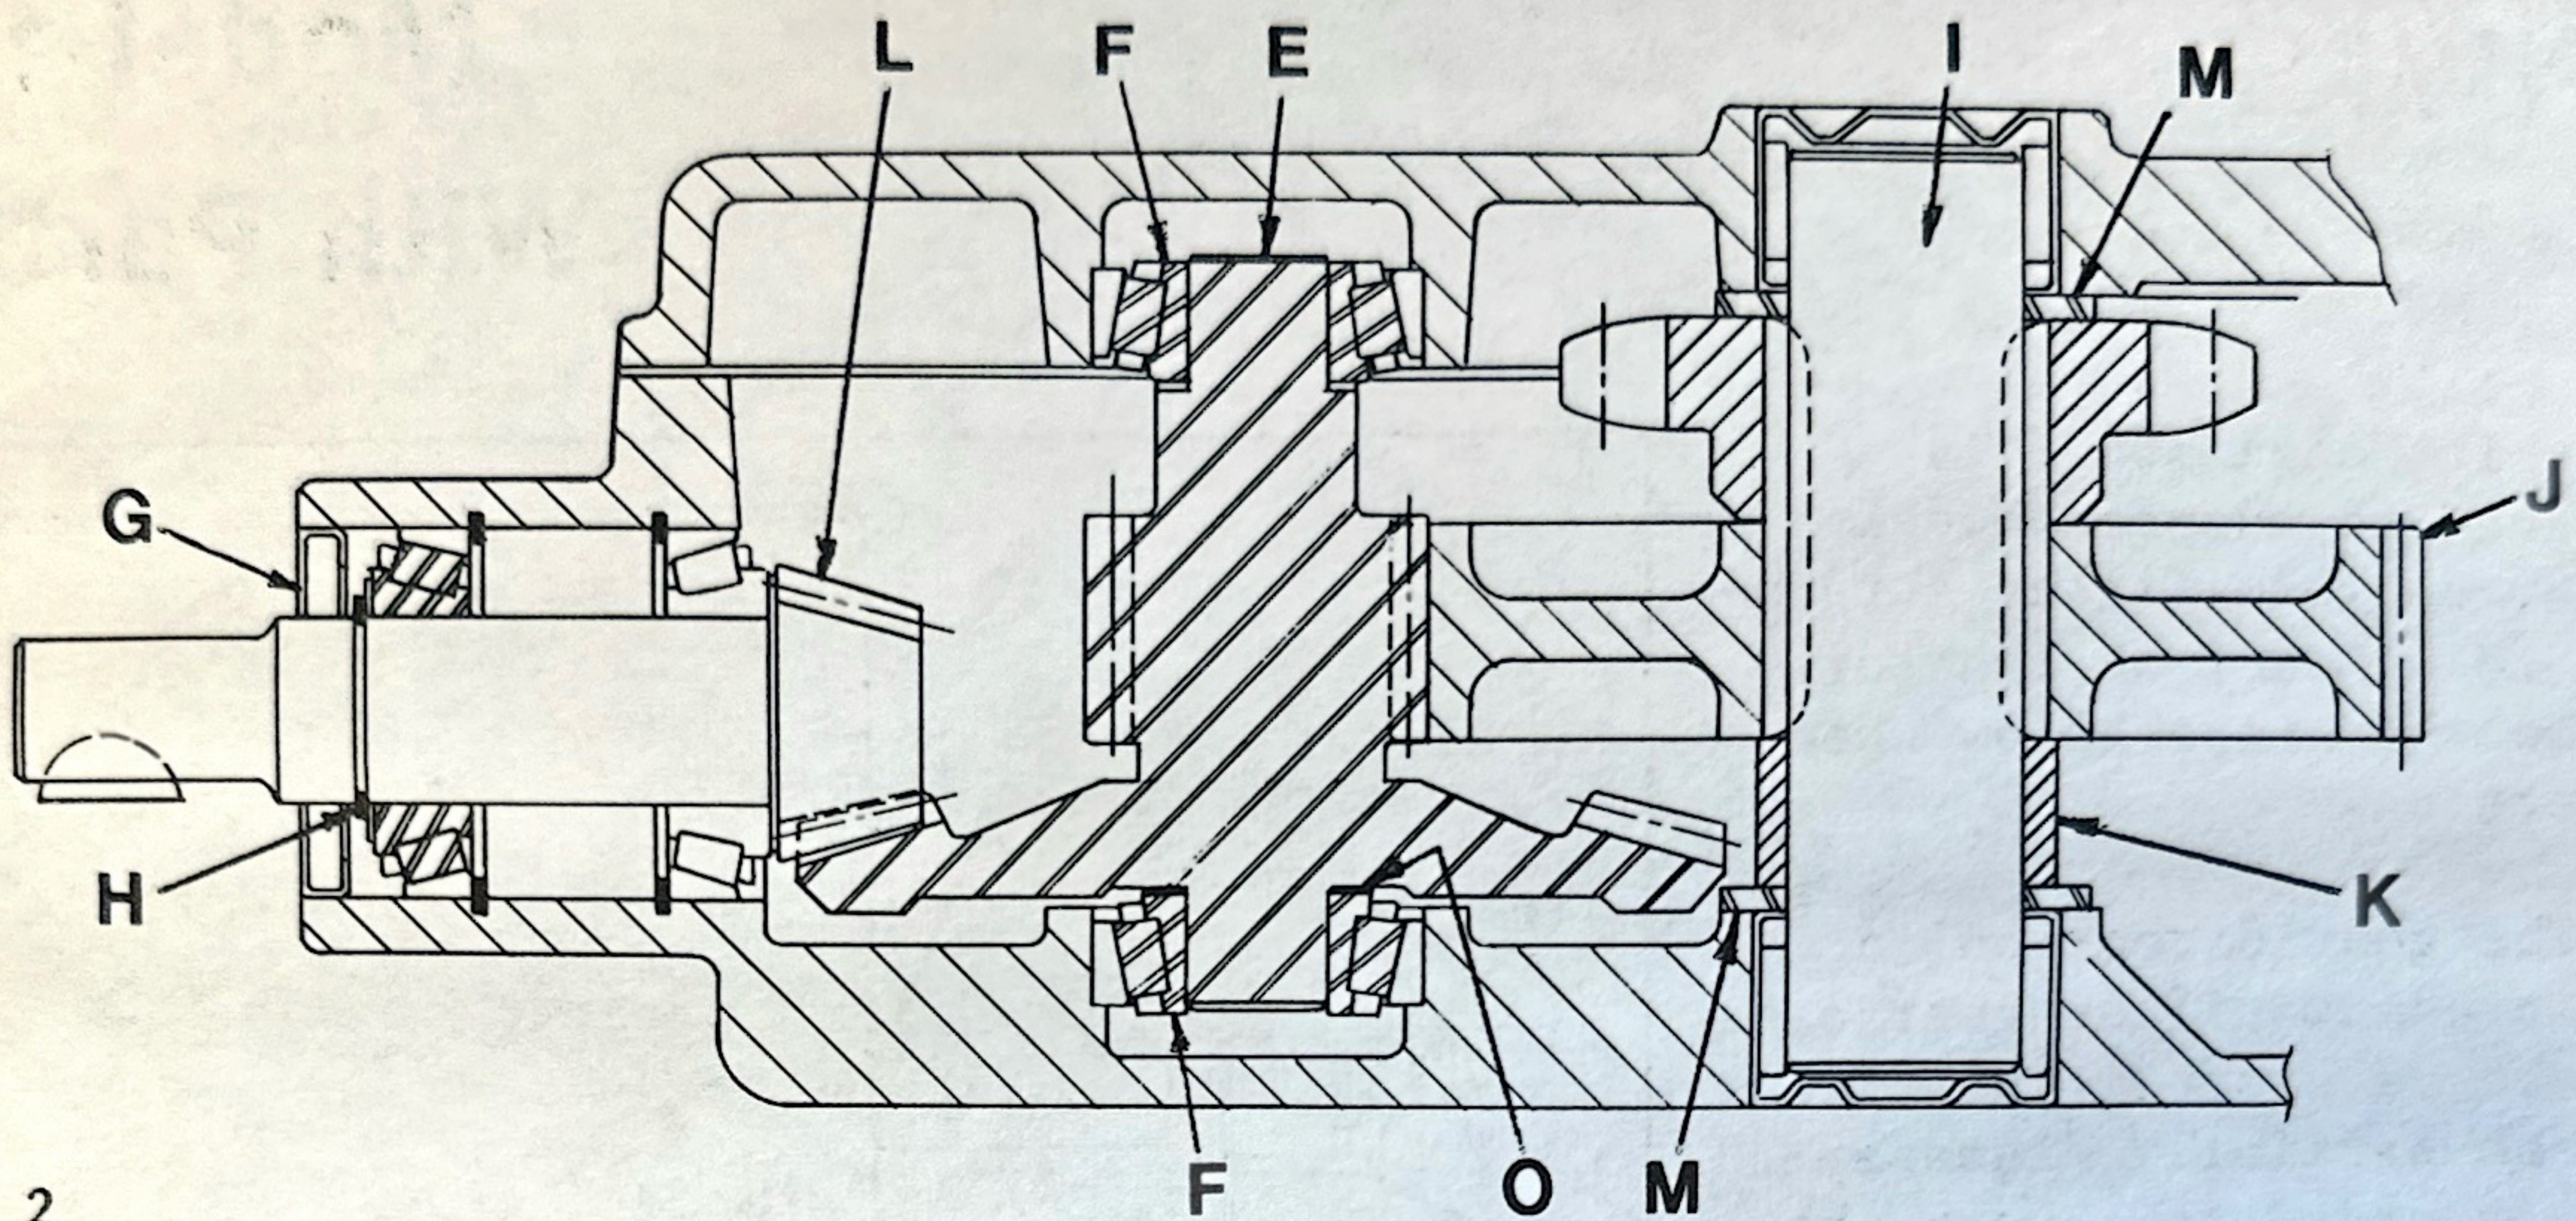

FIG. 2
11. Remove the present pinion shaft "E" Fig. 2, with bevel gear and any shims. These items will not be used when reassembling. Remove bearing "F" if on pinion shaft and save.
15. Lift the entire gear and sprocket assembly with shaft "I" from its bearing. Remove gear "J" and keys and replace with the new 53T gear in its place with two new keys and spacer "K" as shown in Fig. 2. Set the new gear and sprocket assembly "I" to the side to be assembled later.
Fig. 2 into the bearing on the housing side. The input gear "L" must be moved to the side when assembling. Slide on the other bearing "F" removed in Step 11 onto the other end of bevel gear assembly "E".